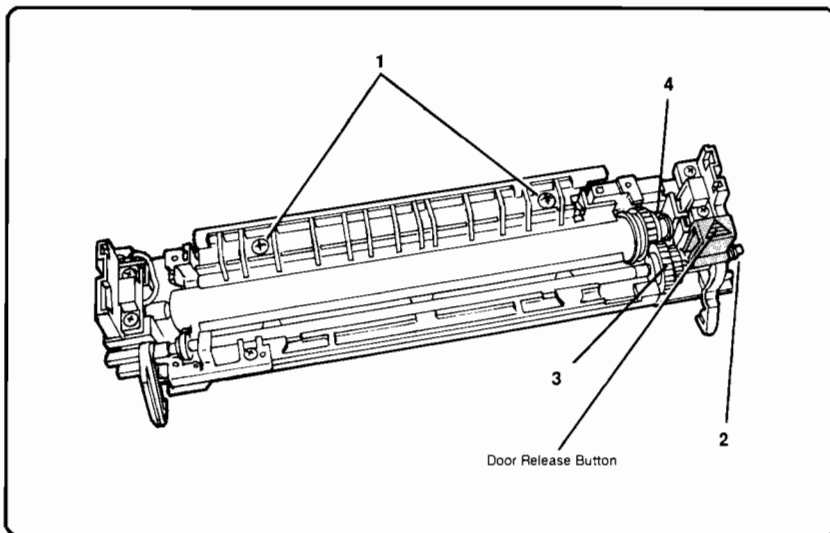

Figure 6-61. Upper Fusing Roller Removal (continued)
6. Turn the Fusing Assembly back over and remove the Paper Delivery Guide (2 screws with springs - Figure 6-61, callout 1).
7. Unclip and remove the Latch Spring (see Figure 6-61, callout 2).
8. Slide the Door Release Button off of the Latch Rod and slide the Drive Gear (Figure 6-61, callout 3) sufficiently to disengage it from the Upper Fusing Roller Gear.
When replacing the Upper Fusing Roller, be careful not to bend or break the grounding button riding on the end of the Fusing Roller (Figure 6-61, callout 4).